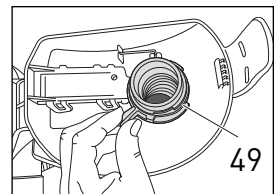
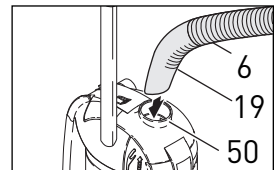

Figure 23
Figure 24
Check for suction at the end of the hose (6) by pulling the hose handle (19) out of the suction opening (18). If you can only feel a small amount of suction, the clog is in the hose. To clear a blockage in the hose, hold the hose handle upright with one hand blocking the top and switch on the machine. Quickly lift your hand on and off the end of the hose. If that does not clear the clog, you may also clear clogs by reversing the hose. To remove the hose from the machine, lift the bag housing cover. Loosen the safety ring (#49, figure 23) located inside the cover by pushing the lever clockwise as shown in figure 23. Remove the hose. Close the bag housing cover and insert the hose handle into the connecting tube (#50, figure 24) of the filter cover. Hold the hose upright with one hand blocking the top and switch on the machine. If necessary, quickly lift your hand on and off the end of the hose. When the clog is cleared, remove the hose handle from the connecting tube. Loosen the safety ring (49) and insert the other end of the hose back into the connecting tube. Release the safety ring so that it secures the hose. Make sure the hose is connected, then close the bag housing cover.